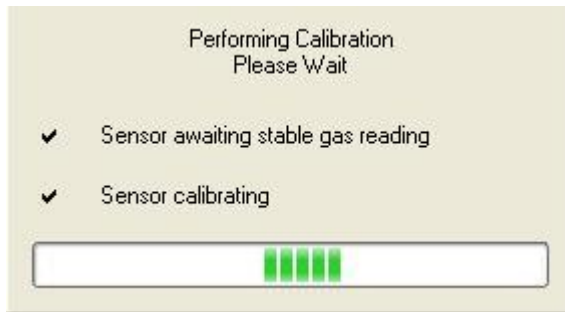

Figure 41 Calibration Status Dialog
- Calibration will start and the '**Performing Calibration**' dialog will now pop up as shown in Figure 41.